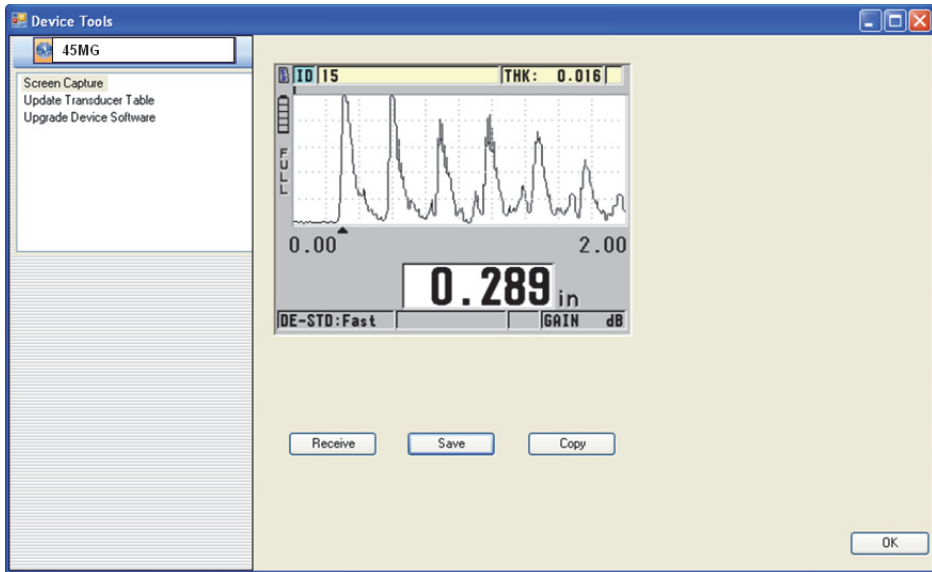

Figure 11-5 The Device Tools dialog box with a screen capture
- b) In the **Device Tools** dialog box (see Figure 11-5 on page 195), select **Screen Capture**, and then click **Receive**.